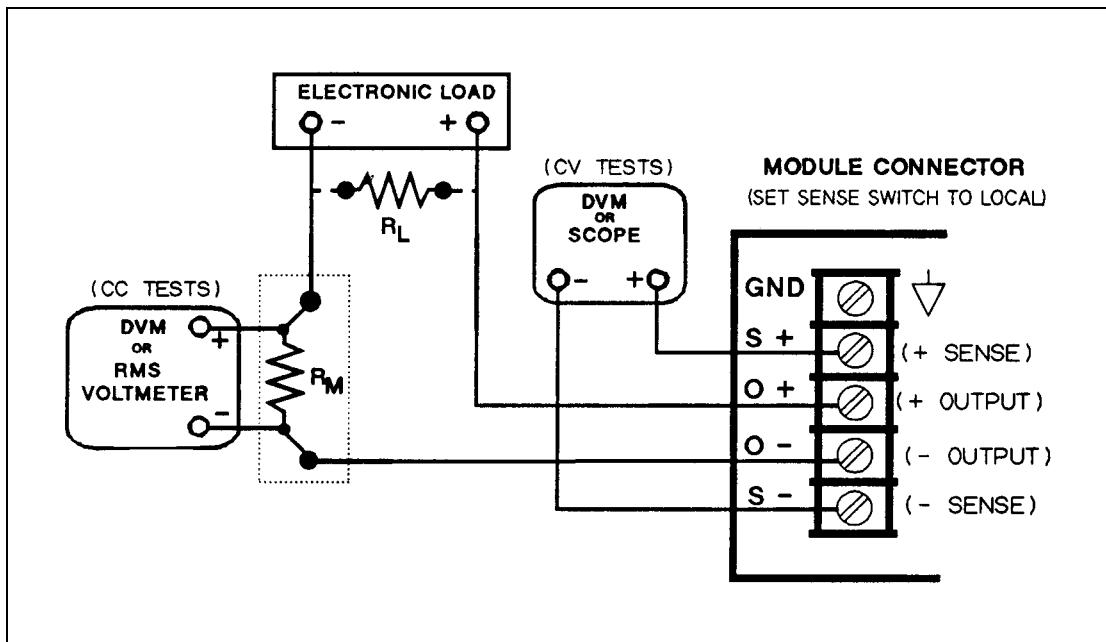

Figure 2-1. Performance Test Setup
To eliminate output current measurement error caused by voltage drops in the leads and connections, connect the current monitoring resistor between the output and the load as a four-terminal device (see R_M in Figure 2-1). Connect the current monitoring leads inside the load lead connections directly at the monitoring points on the resistor element.
1. Turn off the power module and connect a digital voltmeter between the + S and - S terminals (see Figure 2-1).
1. Turn off the module and connect the output as shown in Figure 2-1 with the DVM connected between the + S and - S terminals.
6. The difference between the DVM readings in steps (4) and (5) is the load effect voltage and should not exceed the value listed in the Performance Test Record Tables under CV LOAD EFFECT, for the model being tested.
2. Connect the output as shown in Figure 2-1 with the DVM connected between the + S and - S terminals. Set the transformer to nominal line voltage (either 115Vac or 230Vac).
9. The difference between the DVM readings in steps (6) and (8) is the source effect voltage and should not exceed the value listed in the Performance Test Record Tables under **CV SOURCE EFFECT**, for the model being tested.
1. Turn off the module and connect the output as shown in Figure 2-1 to an oscilloscope (ac coupled) between the + and - terminals. Set the oscilloscope's bandwidth limit to 20MHz (30MHz on the Agilent 54504A) and use an RF tip on the oscilloscope probe.
1. Turn off the module and connect the output as shown in Figure 2-1 with the oscilloscope across the + S and -S terminals.
1. Turn off the module and connect the output to be tested as shown in Figure 2-1 with the voltmeter connected across the current monitoring resistor.